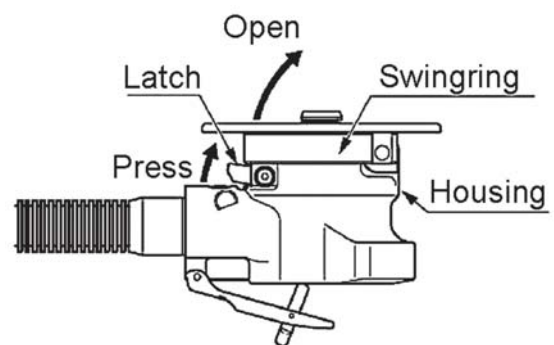

Fig.6
- a. Pressing the Latch unlocks the Swingring and the Swingring opens in the direction of the arrow. (Fig.6)